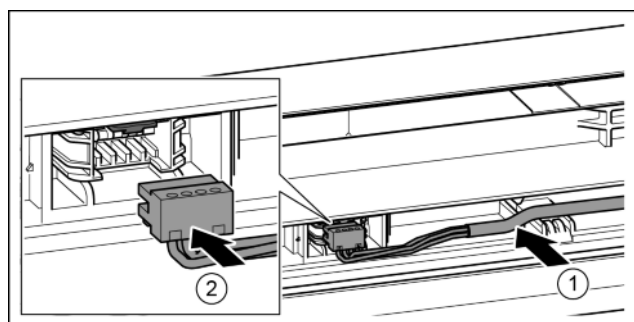

Fig. 37
- ▶ Insert the grey cable into the guide in the top door. *Fig. 37 (1)*
- ▶ Engage the plug. *Fig. 37 (2)*